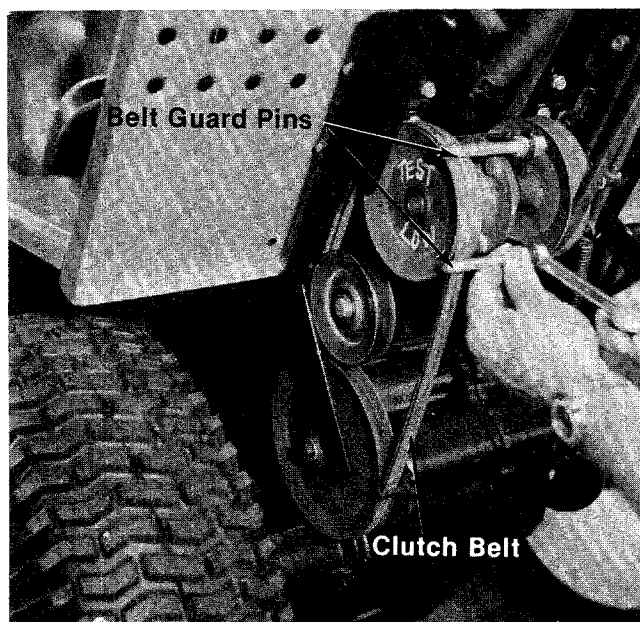

FIGURE 24.
4. Remove the two belt guard pins on the pulley assembly. (See figure 24.)